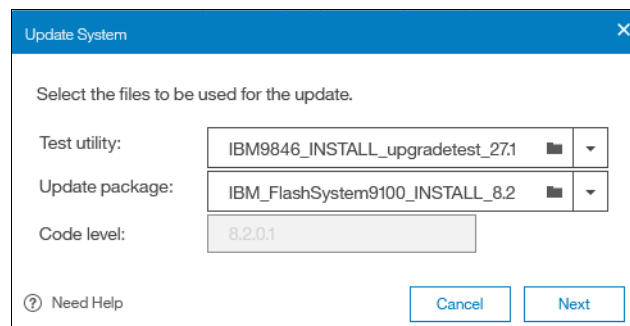

Figure 7-49 Upload option for both Test utility and Update Package
5. If you have previously downloaded both files from <https://ibm.biz/BdYeEv>, you can click each folder icon, browse to the location where you saved the files, and upload them to the FS9100. If the files are correct, the GUI detects and updates the target code level as shown in Figure 7-49.